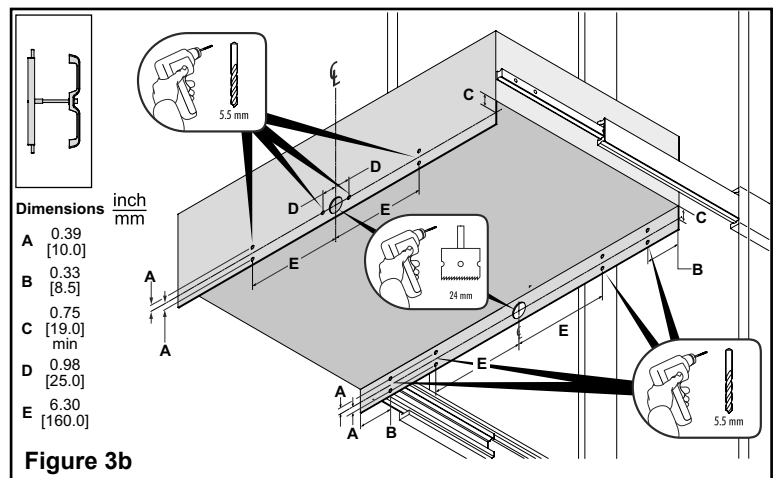

Figure 3b
1. Drill fixing and push-button holes to mount handle, mechanism, and bar support blocks. See figure 3b for hole locations. The material thickness should not be greater than .5" [12mm].